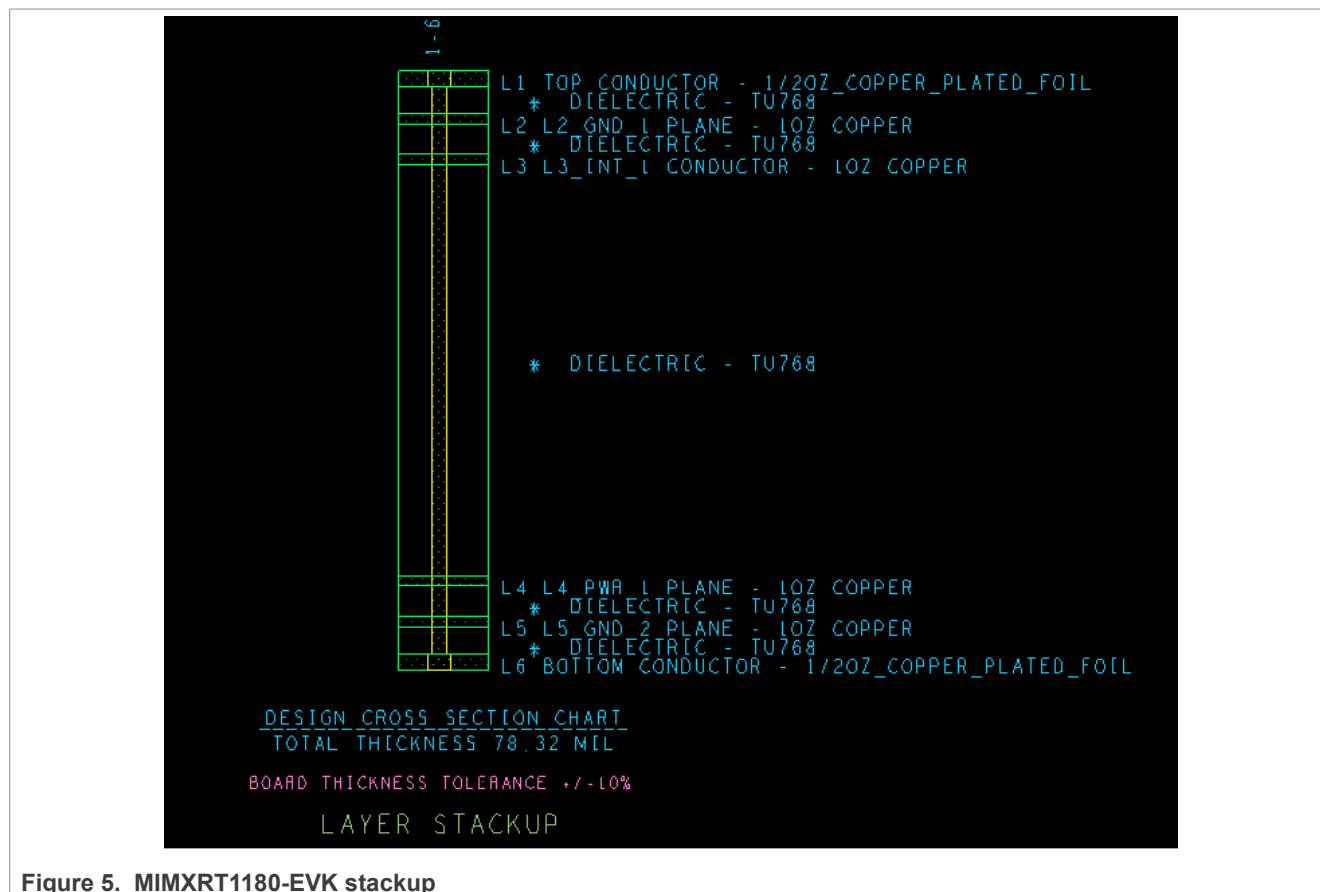

Figure 5. MIMXRT1180-EVK stackup
- The recommended stack-up is six layers, with the layer stack shown in Figure 5. Figure 6 shows the MIMXRT1180-EVK PCB stack-up implementation.